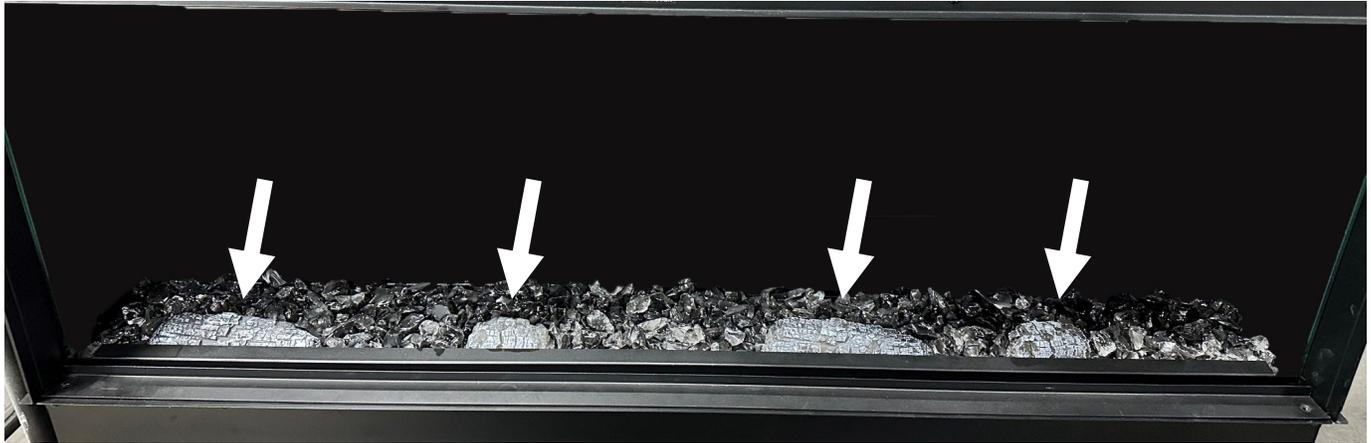

Figure 4.4 - Charred logs.
- Figure 4.4 shows the (4) charred logs installed. These are positioned in front of the pulsating ember bed LEDs.